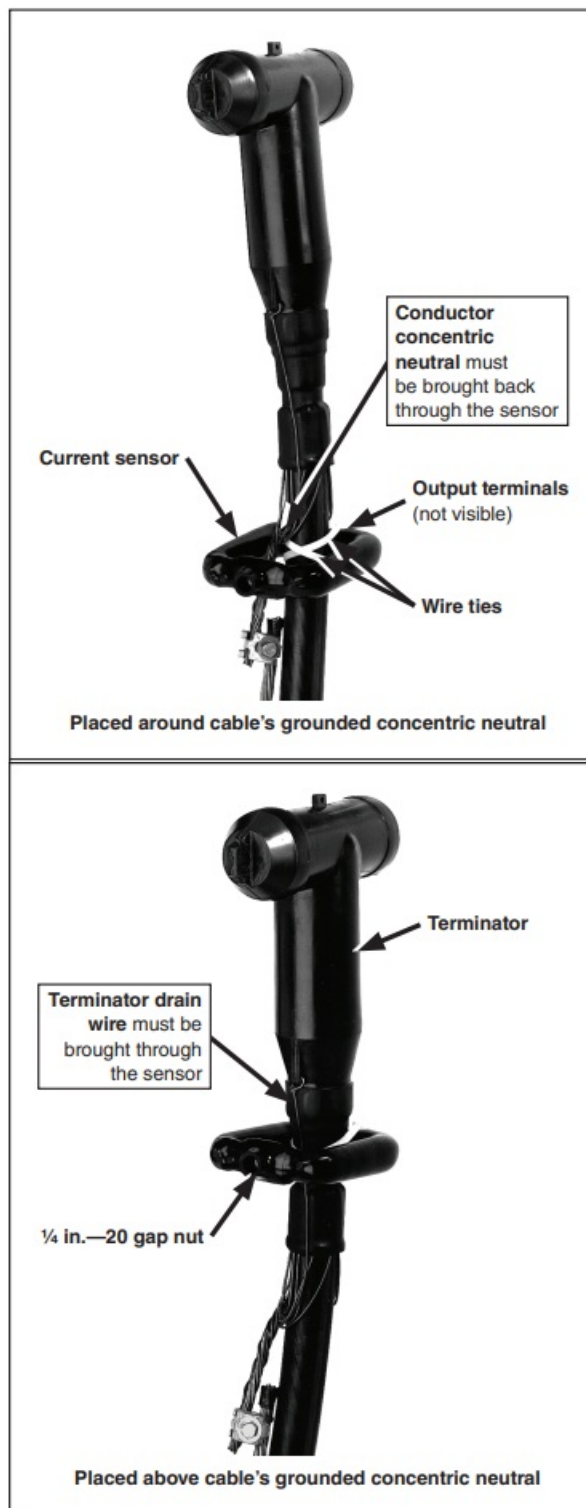

Figure 10. Typical method for attaching S&C Current Sensor to high-voltage cable.
2. **Step 2.** Secure the current sensor to the high-voltage cable at a point below the cable terminator or stress cone using the plastic wire ties furnished. See Figure 10. The current sensor may be placed against the cable's grounded concentric neutral in which case the concentric neutral must be brought back through the sensor, or it may be placed against the cable's semiconducting jacket, in which case the terminator's drain wire must be brought through the sensor.